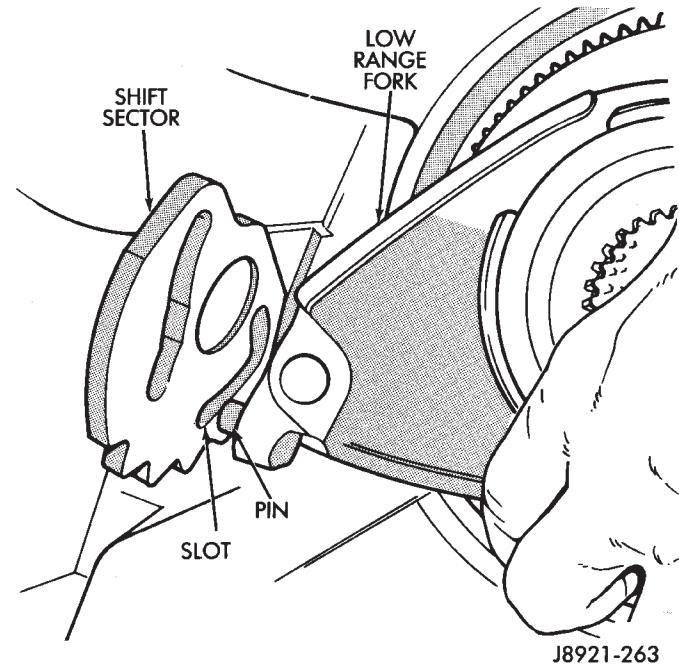

Fig. 26 Shift Sector Position
- (39) Remove the shift sector (Fig. 26).